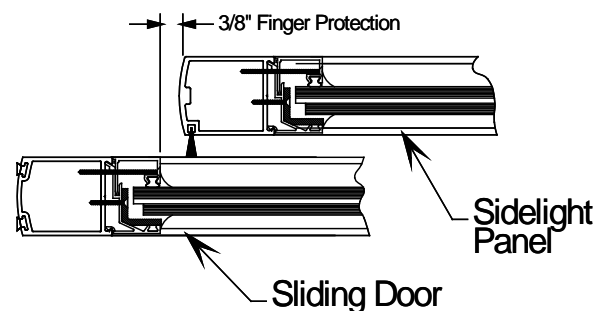

Figure 24
7. Adjust the doorstop so there is a  $3/8$ -inch gap from the face of the sidelight or swing panel. (See Figure 24) In some cases, the doorstop will be mounted on the jamb tube.